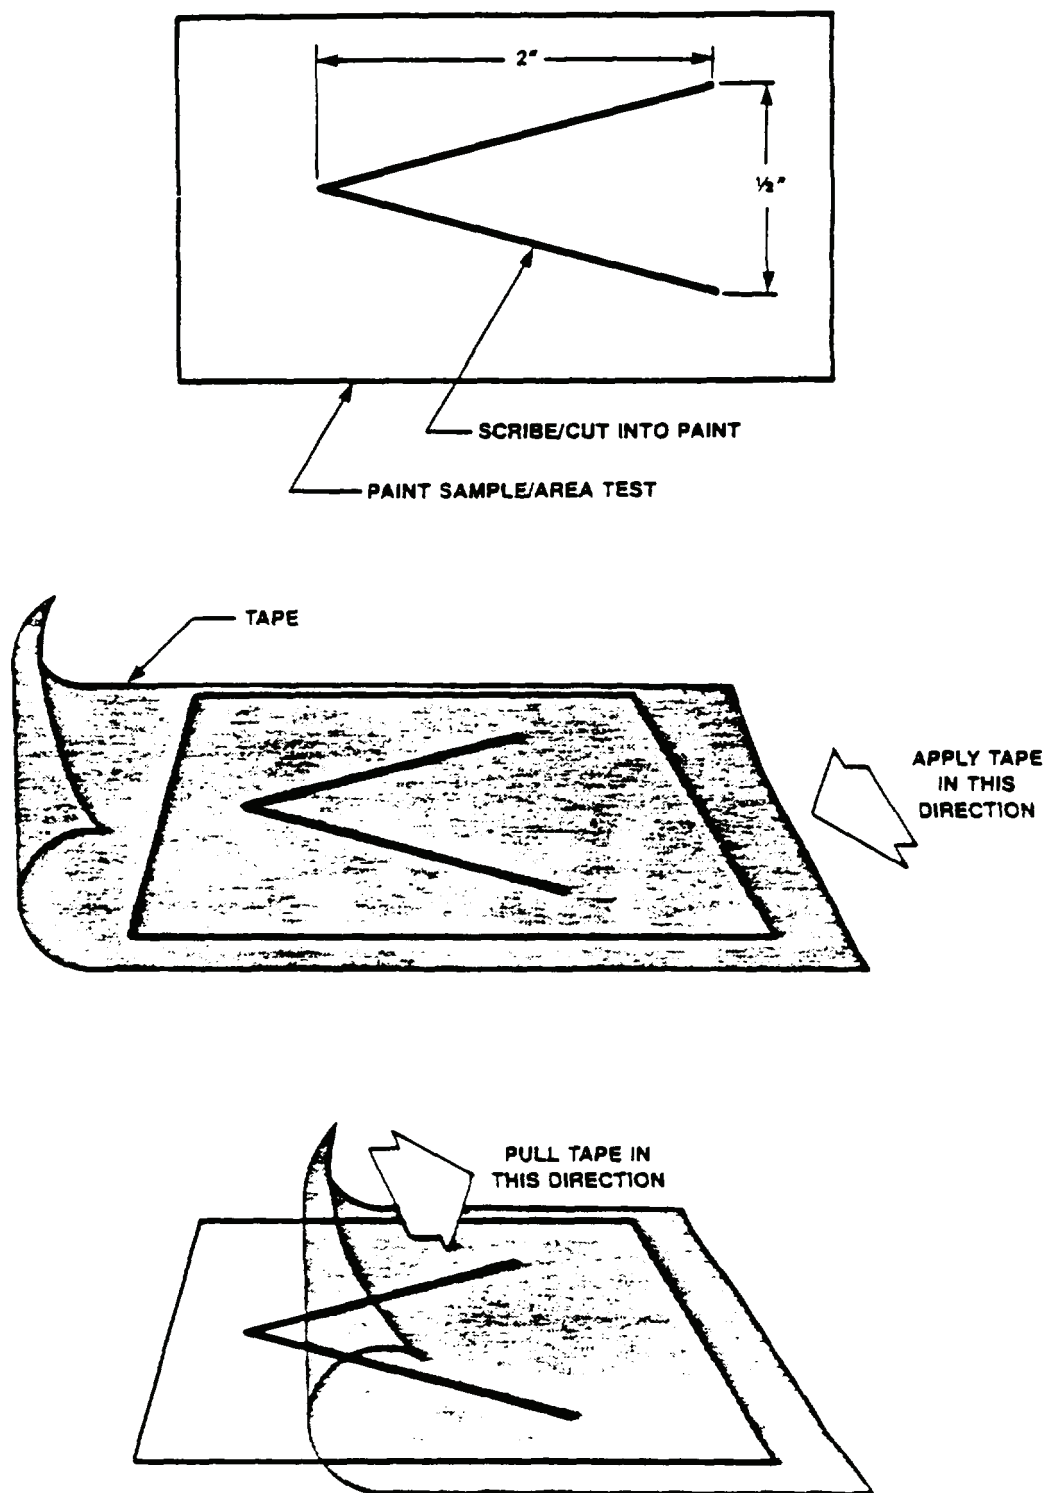

Figure 12-3. Tape Test
- Make a V-shaped scratch through paint finish with a sharp metal blade. Make scratch approximately two (2) inches long and one half (1/2) inch between edges at widest point.
- Press a piece of pressure sensitive tape (3M code no. 250 or equivalent) firmly over the V, in direction indicated on Figure 12-3. Press out air pockets.
- Wait at least ten seconds, and then quickly pull tape away, in direction indicated in Figure 12-3.